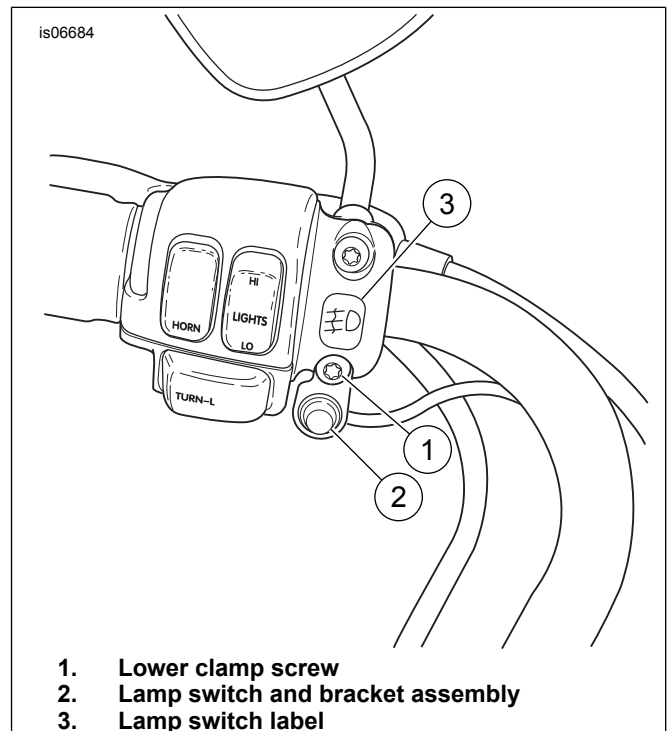

Figure 6. Install Lamp Switch (1996-later shown)
16. See Figure 6. Remove the lower screw (1) and washer from the clutch control clamp, and install the lamp switch and bracket assembly (2). Install the screw and washer and tighten to 7–9 N·m (60–80 in-lbs). **For International Applications:** Place the fog lamp switch label (3) on the clutch control clamp.